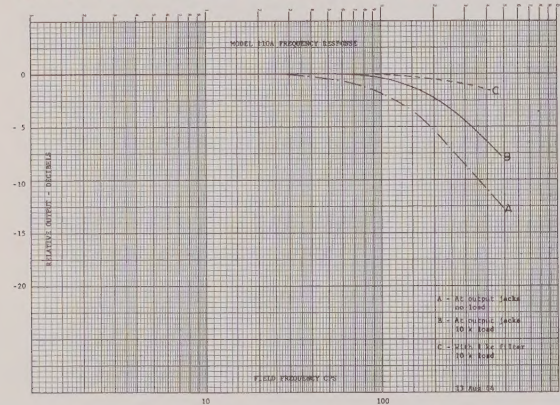

Fig. III-2 - Frequency Characteristic at Output Jacks, Model 110A
An oscilloscope with about 200 millivolt sensitivity, connected to the output jacks on the front panel, will indicate field frequencies up to 400 cps with only a small amount (about 4 mv p-p) of 5KC carrier ripple showing. The filter in the Model 110A output begins attenuation above 400 cps, although readable results can be obtained to 1000 cps. The output response to A.C. fields is shown in Fig. III-2.
4. Frequency response to A.C. fields see Fig. III-2.